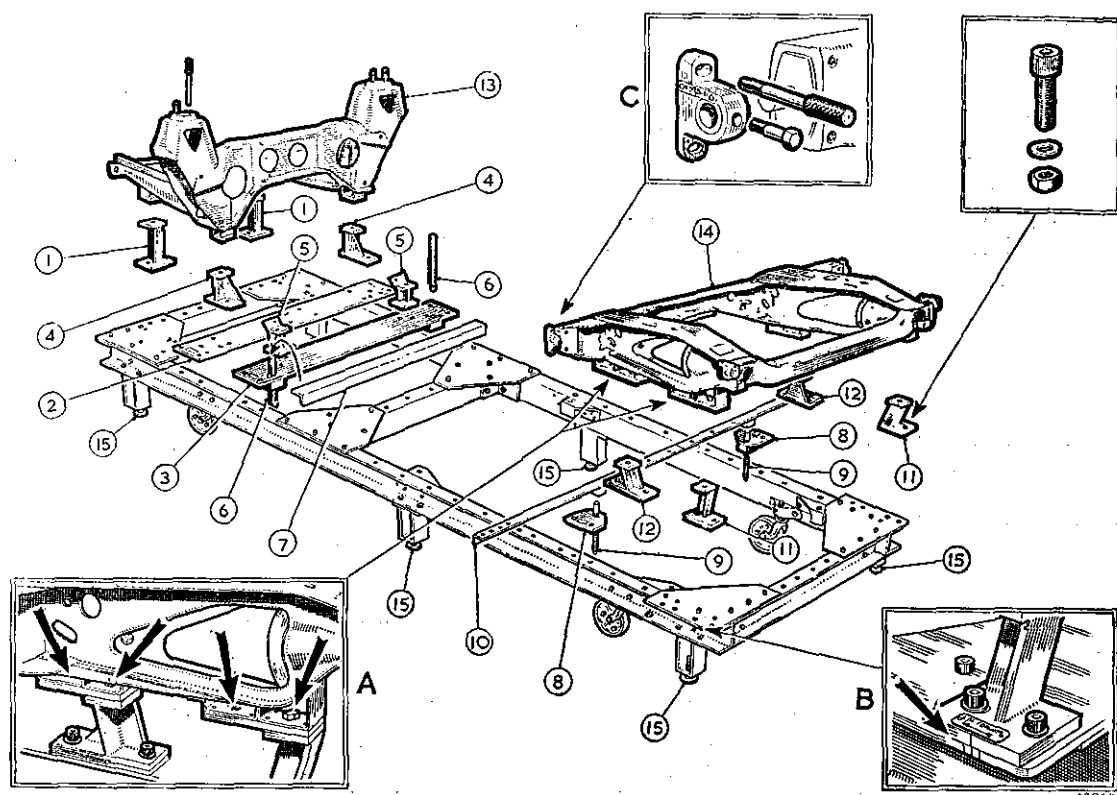

Fig. R.4
Where item numbers are quoted in this sub-section refer to Fig. R.4.
Tighten down the pedestal fixing bolts, and check the relative positions of the lines scribed on the outer edge of each rear pedestal and the lines scribed on either outer edge of the jig rear corner plates (10). The ideal position is when the lines on the pedestals coincide with the central lines on the corner plates (see inset [B], Fig. R.4). The lines scribed either side of each central line show the maximum permissible limits of adjustment, and the correct clearance between the checking bracket and the body must be obtained with the adjustment set within these limits.